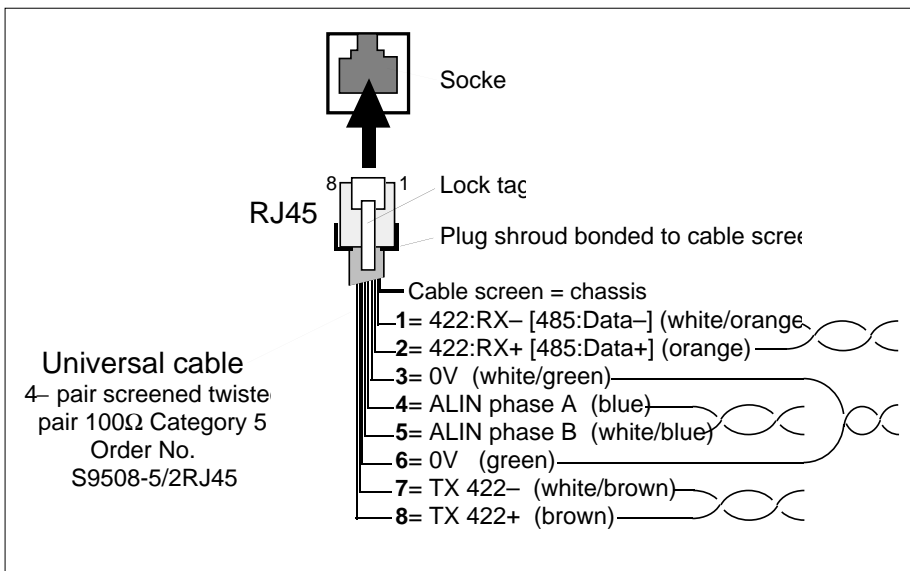

Figure 2-2 RJ45 connector wiring for 100Ω ALIN systems
- **RJ45 plug.** Figure 2-2 shows the wiring of the RJ45 plug. Note that in the standard RJ45-to-RJ45 cable (Order No. S9508-5/2RJ45) all eight ways are wired to make a 'universal' cable capable of connecting serial as well as ALIN systems. The ALIN system uses only pin 4 (blue wire — ALIN phase A), and pin 5 (white/blue wire — ALIN phase B), and the cable screen. The remaining wires do not connect to the ALIN system.